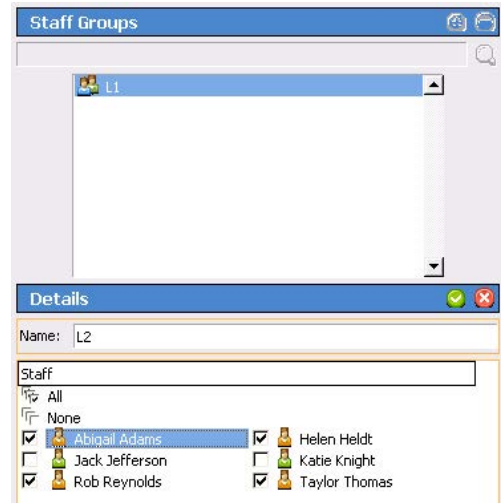

Figure 11: Config Tool Staff Groups
2. Select **Staff** from the page selection pane and click **Add** in the **Staff Groups** pane, shown in Figure 11.